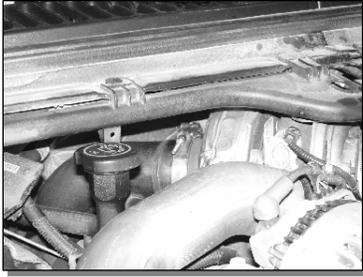

Figure 3
- Remove the down pipe from the turbo by removing the band clamp using an 11mm socket. Retain the band clamp for the installation of the new down pipe. **See Figure 3.**